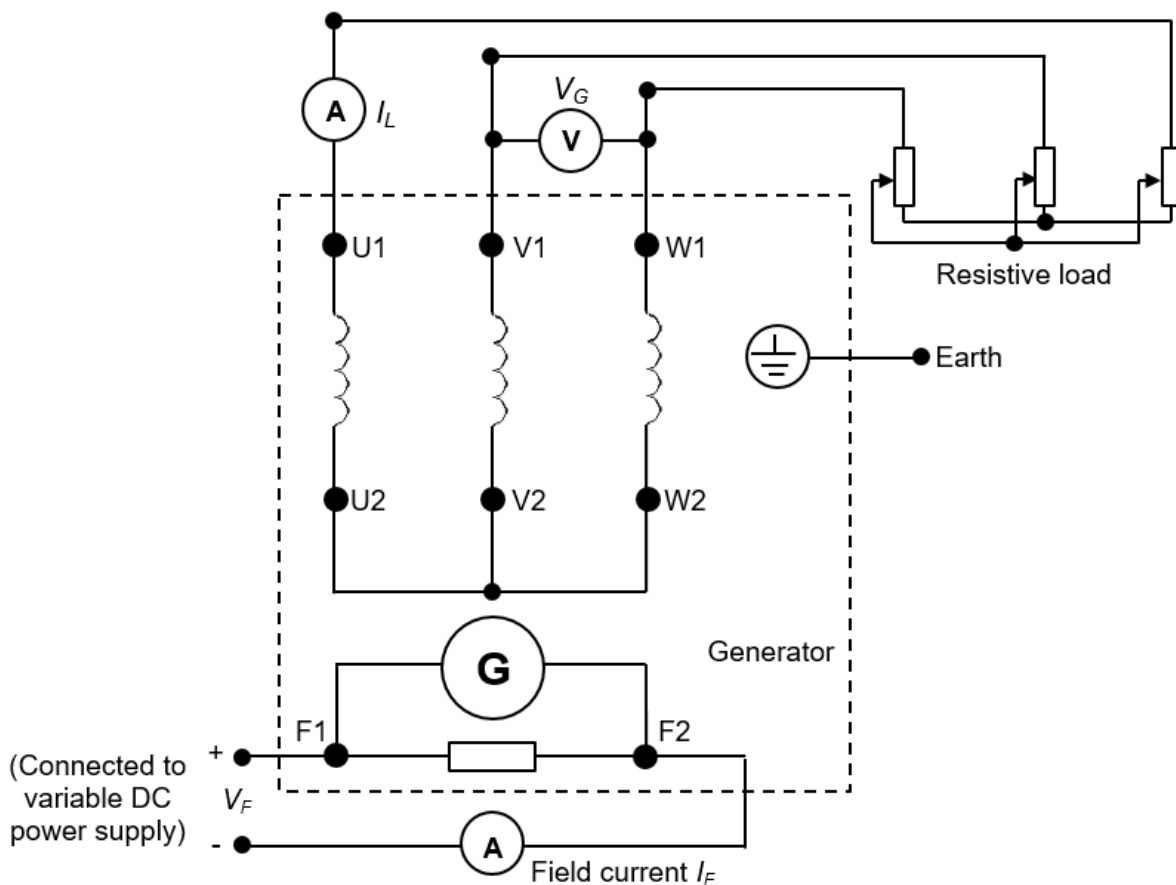

Figure 3
1. Switch OFF all DC power supplies. As shown in Figure 3, connect a voltmeter between V1 and W1. Connect a 3-phase resistive load to the output of the generator and connect an ammeter between U1 and the resistive load.